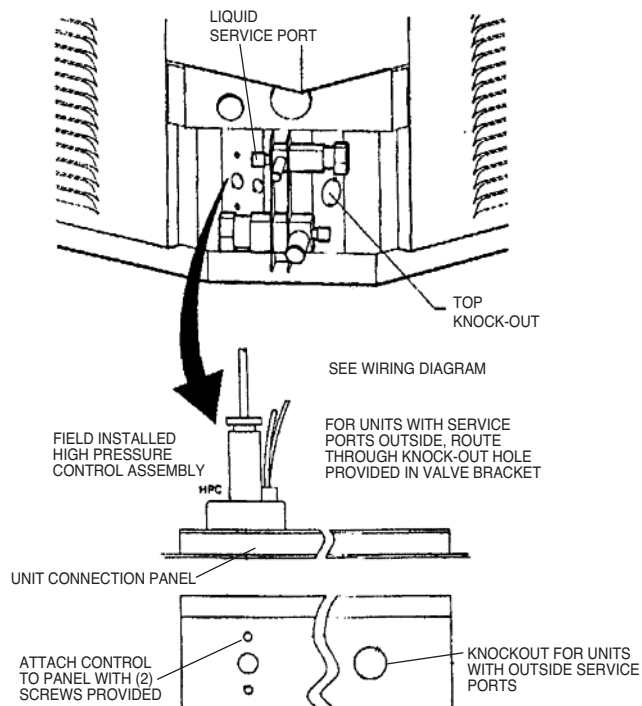

FIGURE 1. INSTALLING CONTROL
2. Install the high pressure control in the existing holes in the connection panel using the two screws provided. See Figure 1.